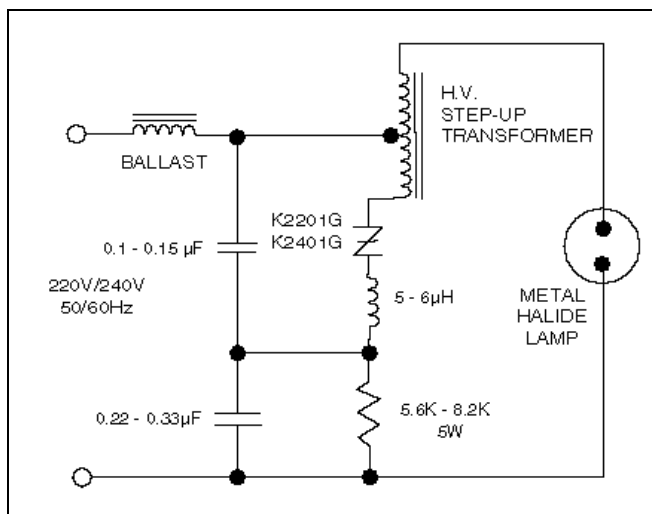

Figure 13 – Typical Metal Halide Ignitor Circuit
- Teccor's new, improved series of sidacs is designed to ensure good commutation at higher switching frequencies as required in ignitor circuits for high intensity discharge (HID) lighting. A typical circuit for metal halide lamp circuit is shown in the schematic, Figure 13.